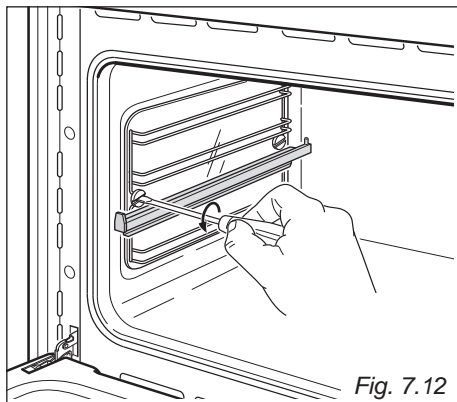

Fig. 7.12
- Remove the side racks and the catalytic liners by unscrewing the fixing screws (fig. 7.12).